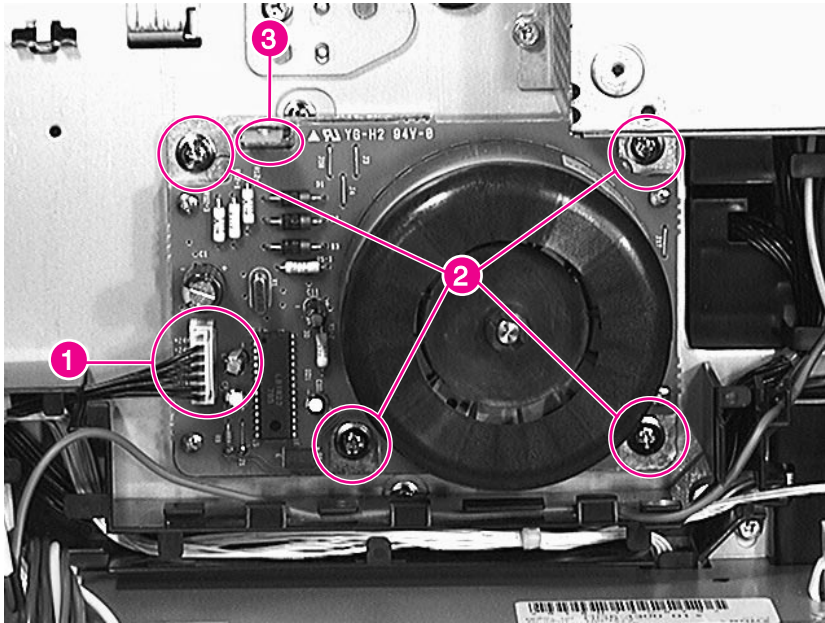

Figure 6-41 Main Motor
- Main Motor (see figure 6-41 on page 259)
- 3 Unplug the connector (figure 6-41, callout 1).
- 4 Remove 4 screws (figure 6-41, callout 2).
Align the Main Motor to the chassis with the locator tab (figure 6-41, callout 3) and the machined ring around the output shaft.